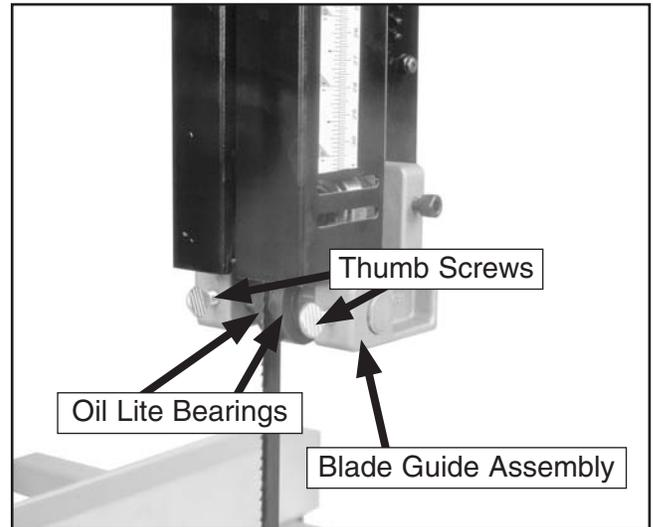

Figure 55. Front of upper blade guide.
2. Loosen the thumb screws in **Figure 55**.